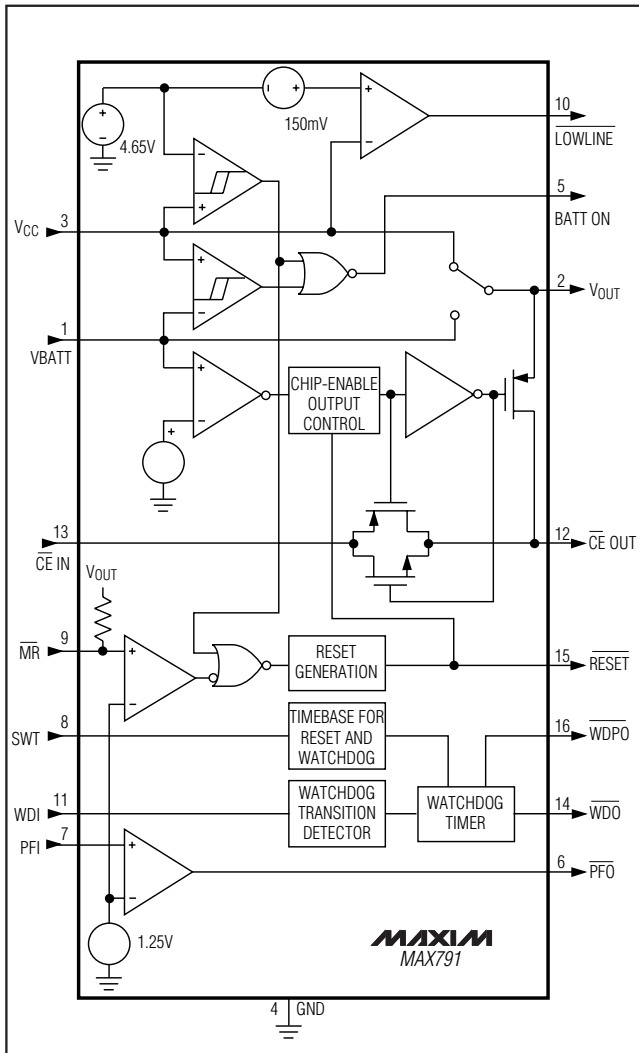

Figure 1. MAX791 Block Diagram
Many μ P-based products require manual-reset capability, allowing the operator or test technician to initiate a reset. The Manual Reset Input (MR) can be connected directly to a switch, without an external pull-up resistor or debouncing network. It connects to a 1.25V comparator, and has a pull-up to V_{OUT} as shown in Figure 1. The propagation delay from asserting MR to RESET asserted is 4 μ s typ. Pulsing MR low for a minimum of 15 μ s resets all the internal counters, sets the Watchdog Output (WDO) and Watchdog-Pulse Output (WDPO)
The MAX791 provides internal gating of chip-enable (CE) signals to prevent erroneous data from corrupting the CMOS RAM in the event of a power failure. During normal operation, the CE gate is enabled and passes all CE transitions. When reset is asserted, this path becomes disabled, preventing erroneous data from corrupting the CMOS RAM. The MAX791 uses a series transmission gate from the Chip-Enable Input (CE IN) to CE OUT (Figure 1).